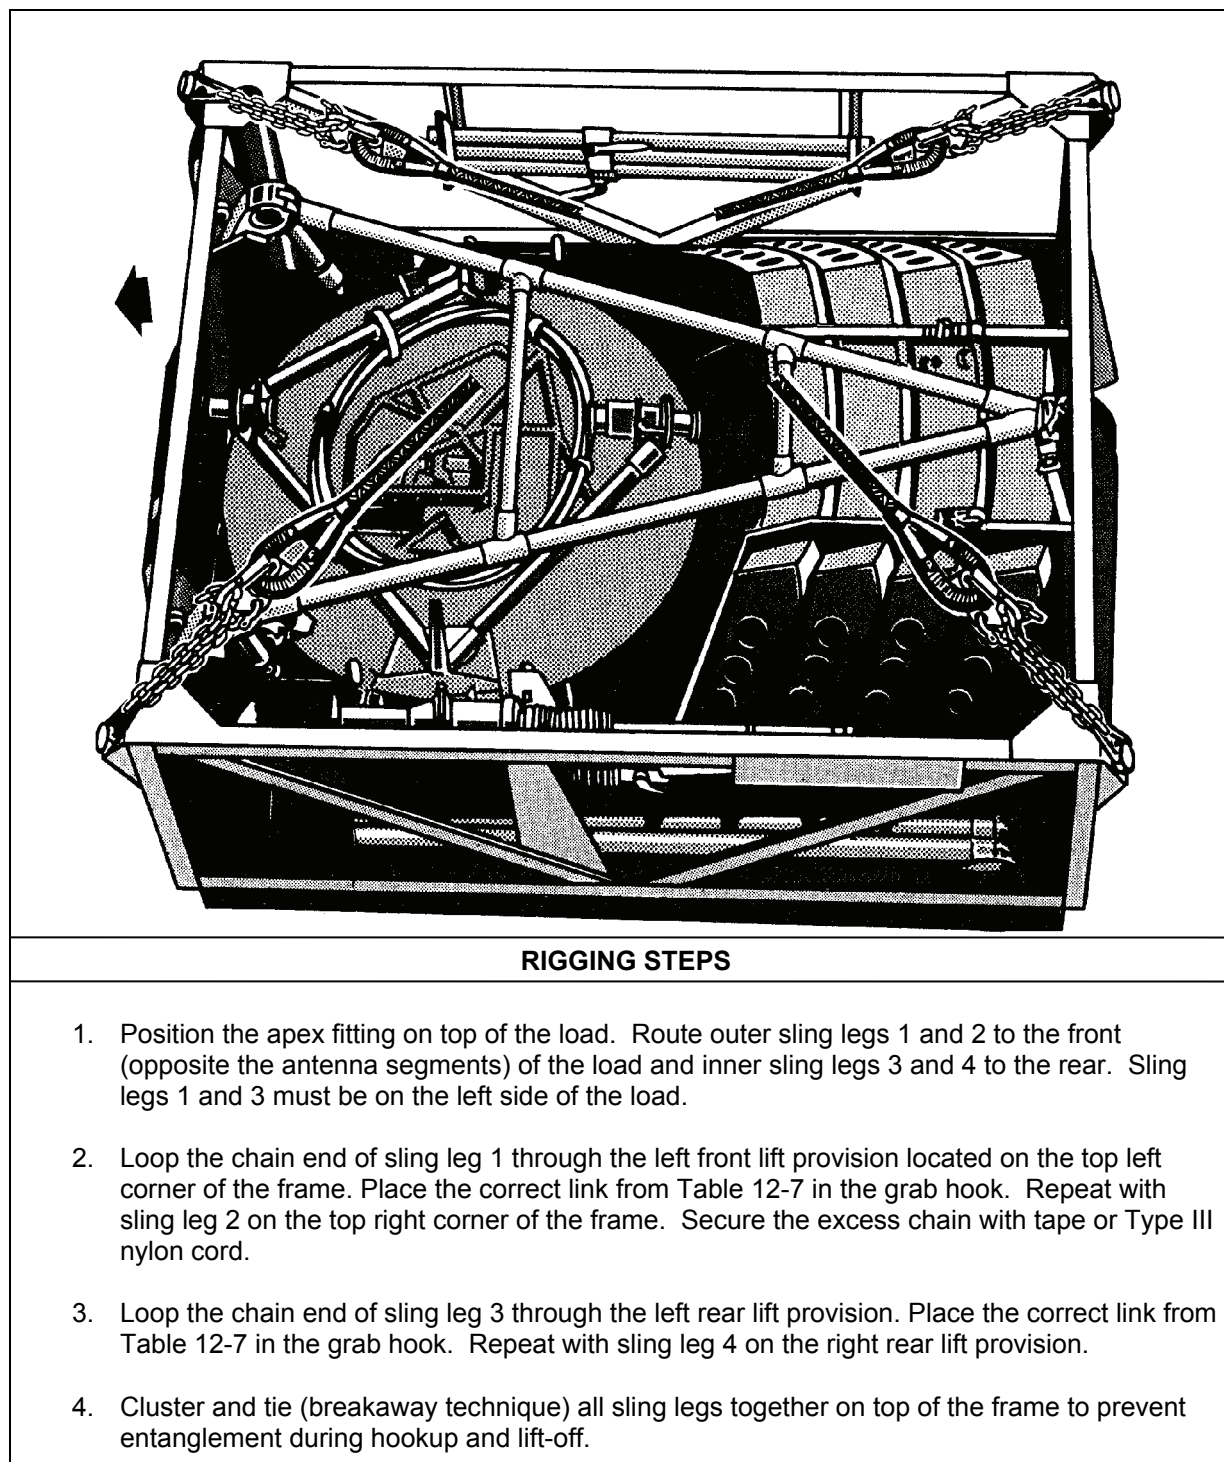

Figure 12-7. Antenna Pallet Transit Frame
- **Rigging.** Rig the load according to the steps in Figure 12-7.